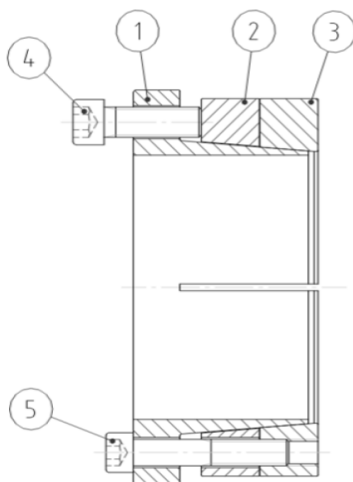

Fig. 3
3. Release collar item [2] by tightening all push-off screws in a crosswise pattern, not exceeding  $\frac{1}{4}$  turns for several passes (see fig. 3).